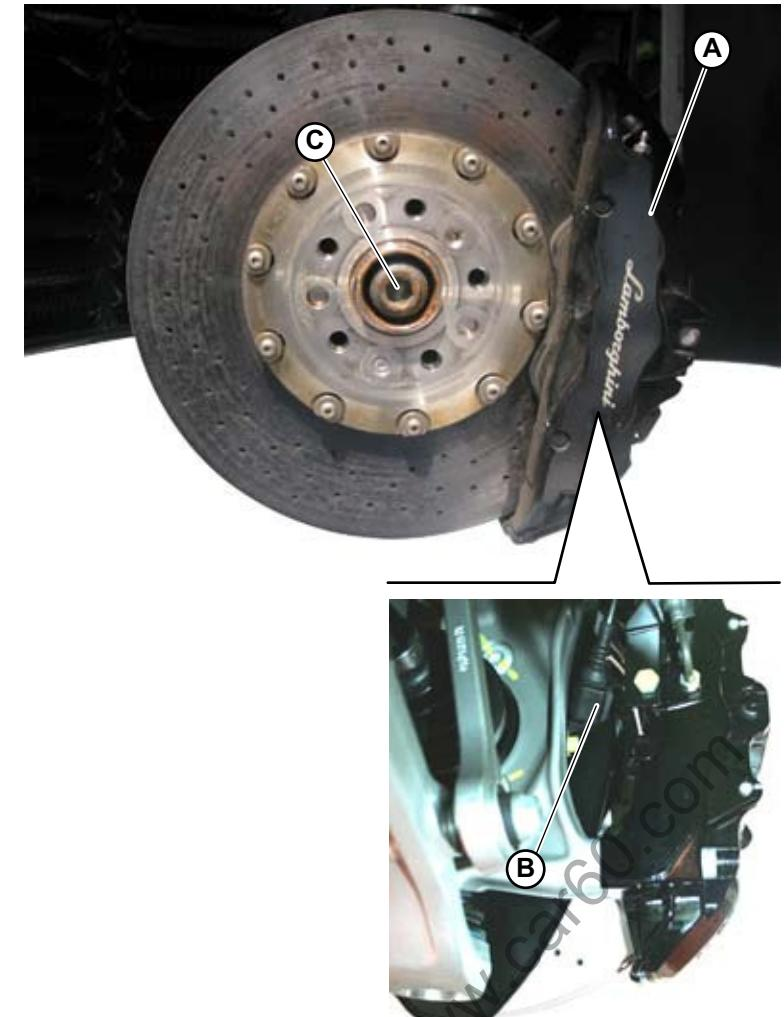

Fig.1
1. Release the front brake calliper (A-Fig.1) without disconnecting it from the hydraulic circuit.
- 2. Disconnect the ABS sensor (B-Fig.1).
3. Loosen the screw (C-Fig.1) securing the axle shaft to the front hub housing.